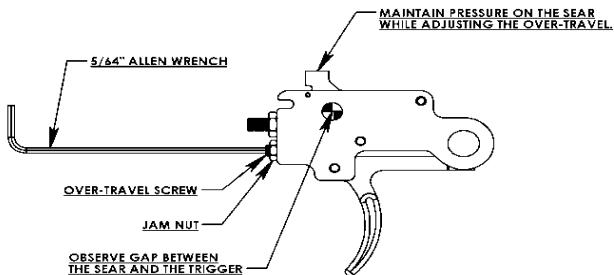

Figure 35.
4. Turn the screw clockwise until it locks up the trigger against the sear. Turn the over travel screw counter clockwise one quarter of a turn and lock into place by turning the brass jam nut clockwise until it is tight against the trigger housing. (Figure 35.)